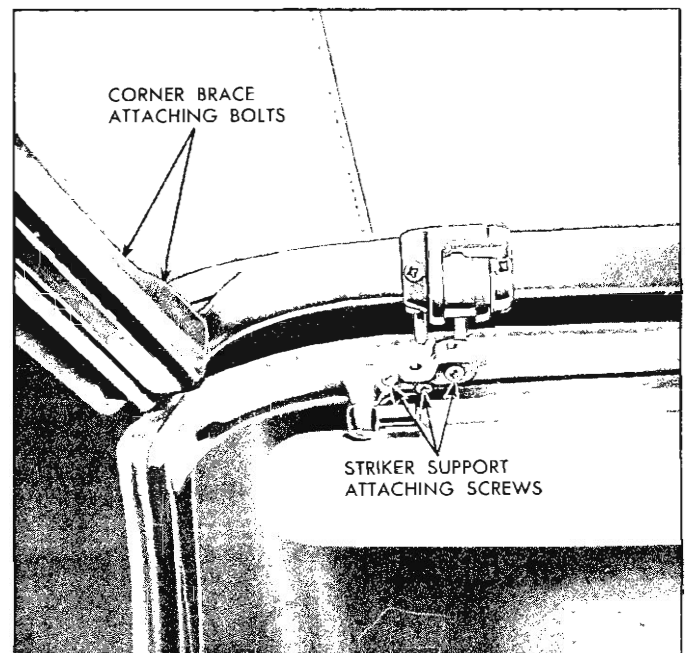

Fig. 50—Front Roof Rail Adjustment
2. Loosen striker support attaching screws and adjust striker as required; then tighten attaching screws (see Figure 50).